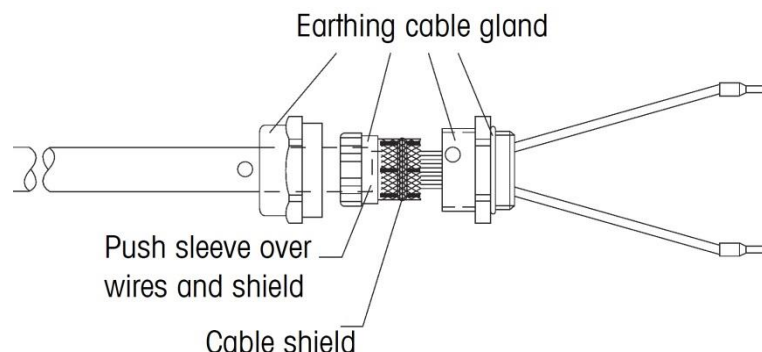

Figure A-26: Battery Pack Cable Preparation
6. Fold the shield wires over the plastic component of the cable gland (Figure A-26). Then press this assembly into the threaded metal body of the gland.